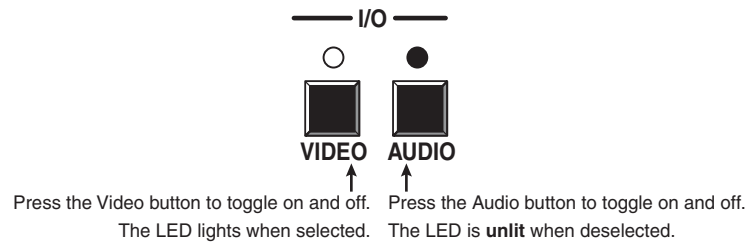

Figure 3-10 — Select video only
2. To select video only for the tie, if necessary, press and release the Video button and the Audio button (figure 3-10).